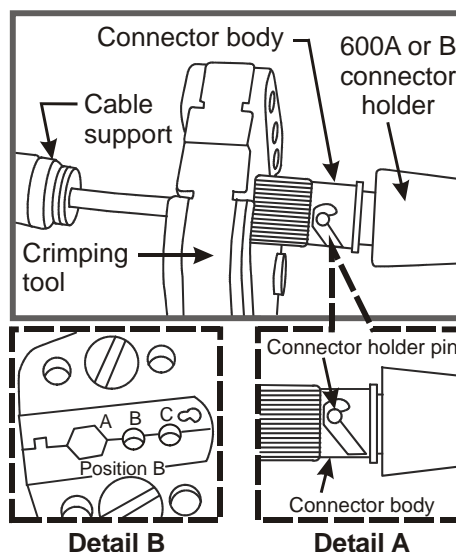

Figure 29. Crimp Sleeve
7. **Secure Crimp Sleeve**—Position the 600A or 600B connector holder pins onto the connector body as shown in Detail A of Figure 29 for the crimping and curing operation. This will allow the sleeve to be fully exposed for crimping. **Before**
- **For silver 2.4 mm sleeves**—Use position B of the 102A crimping tool as shown in Detail B, Figure 29. Place the tool over the sleeve so when crimped the first two indentations on the sleeve appear over the connector barrel and the third appears over the cable jacket. This will ensure a good crimp and prevent cable rotation. Squeeze the crimping tool handles until they release. Rotate the connector 90° and crimp again.